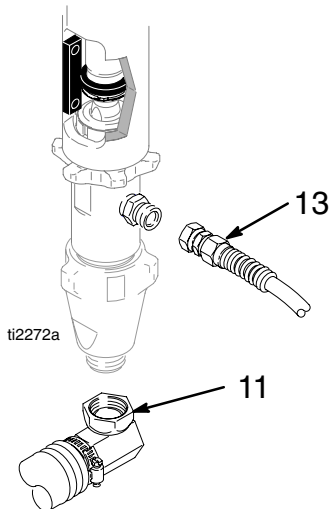

Fig. 11
3. Fig. 11 – 13. Remove pump.
4. Fig. 11. Remove suction tube (11) and hose (13).